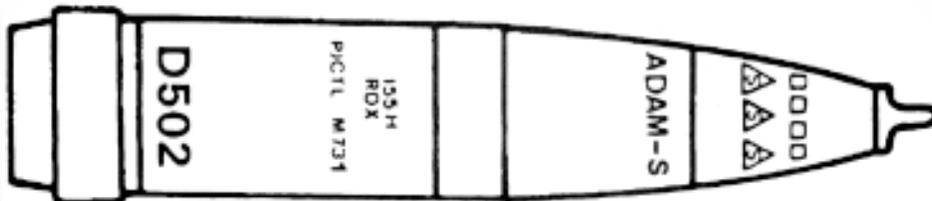

Figure 2-19. M731 projectile
j. **Projectile, 155-mm, HE, M731.** This projectile is also known as the ADAM projectile and is exactly like the M692 above except for the letter S painted in each yellow triangle and the letters ADAM-S, which indicate the shorter self-destruct time of the antipersonnel mine submunitions unit. This is a base-ejection type projectile and uses the M577 time fuze (Figure 2-19).